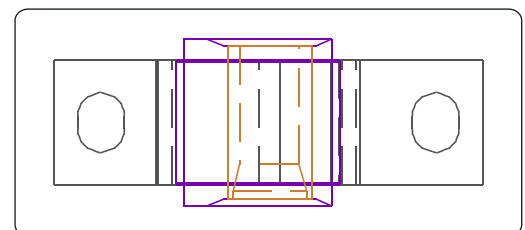

Fig 2. Assembled view.
3. With the bush off-set rotated to obtain the desired outcome, using suitable adaptors **pressing on the metal shell only**, carefully press in new Powerflex bushes into the original aluminium mounts, so that the metal shell is fully engaged in the mount as shown in fig. 2.